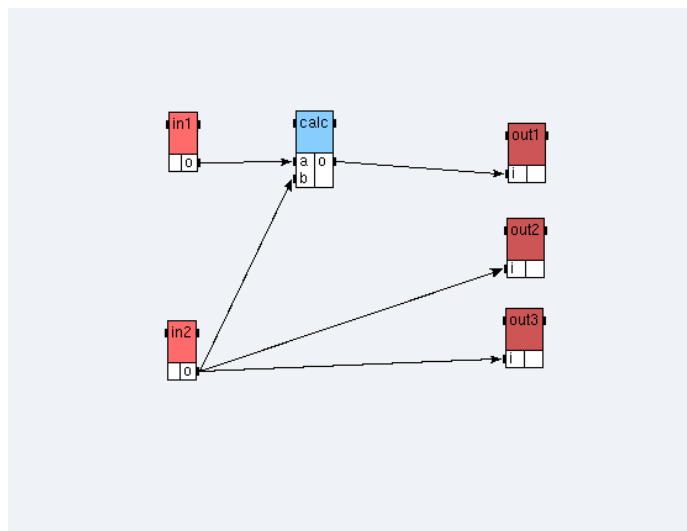

Figure 1.12: Main algorithm of the **Example 1**
- from the AlgorithmMain definition window, to create a data dependence between in1 and calc, point the cursor on the output port o of the in1 operation, middle click, and drag to the input port a of the calc operation. It draws an arrow between these target ports. After creating the other data dependences, the main algorithm looks like the figure 1.12.